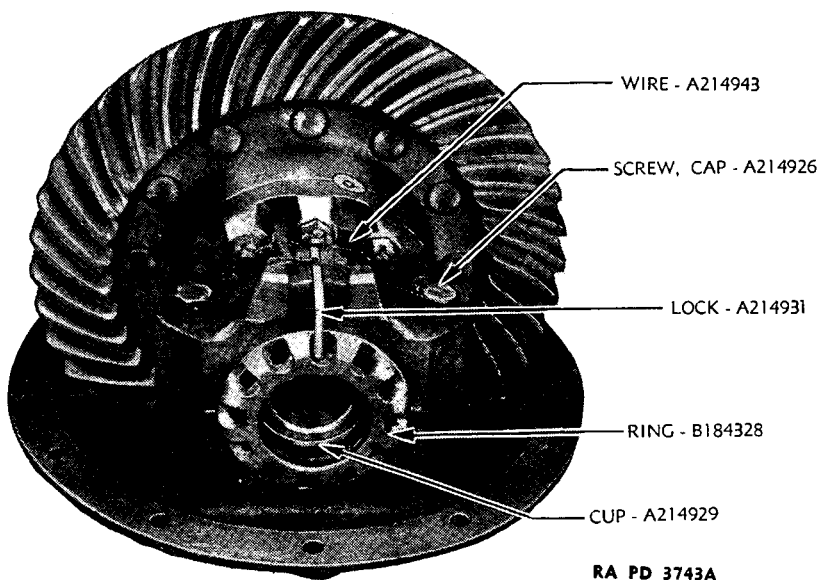

FIGURE 55.—Rear axle differential and ring gear dismounted, side view.
(1) Remove carrier assembly. Follow steps in *c*(1) through (5) above.
(2) Remove adjusting ring locks—cutting pliers. Cut locking wires (A214927) running through bearing cap bolts (A214926). Remove adjusting ring lock cotter pins (BFAX2AK) and remove locks (A214931) (figs. 55 and 56).